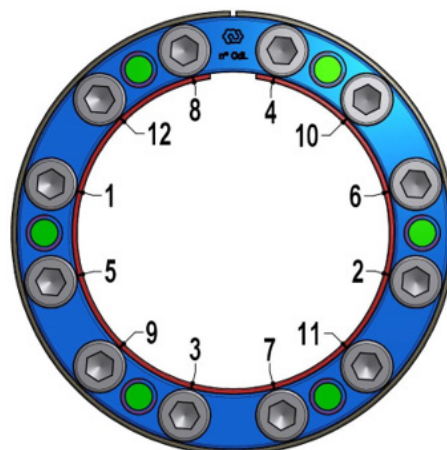
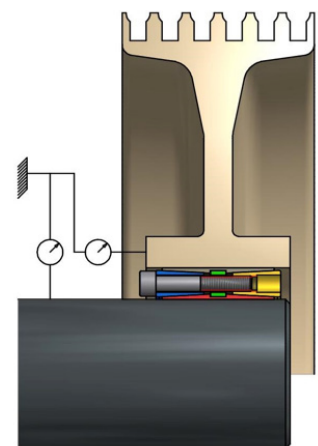

Fig. 3
Fig. 4
4. Tighten the screws by hand in a crosswise pattern (fig. 3) until fitting clearances with shaft and hub bore are bridged and connected components are slightly locked, while making sure that hub is aligned as required. Alignment of hub respect to shaft may be checked using a dial indicator (fig. 4). **Better centering of connected parts from the beginning of installation is essential for better centering when installation is completed.**
5. Use a torque wrench set approx. 5% higher than specified tightening torque (Ma), or reduced within admissible value. **Progressively tighten the screws in a crosswise pattern (fig. 3), using approx. ¼ turns for several passes** until ¼ turns can no longer be achieved. For better centering result, it is recommended to check the alignment of hub respect to shaft with a dial indicator after each tightening pass (fig. 4).